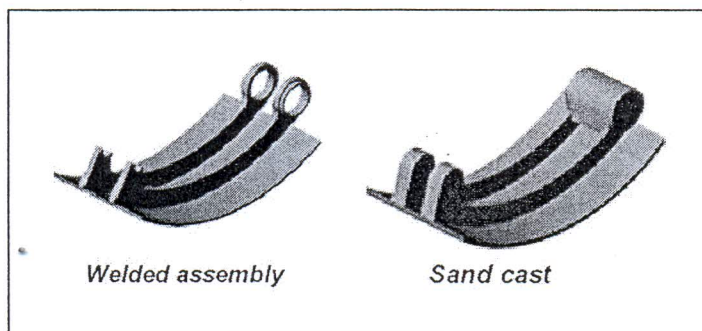

Figure 1
- (a) Figure 1 shows two kinds of processes to produce brake shoes. Which process is more economical? Explain 3 categories of factors to support your answer. (6 marks)